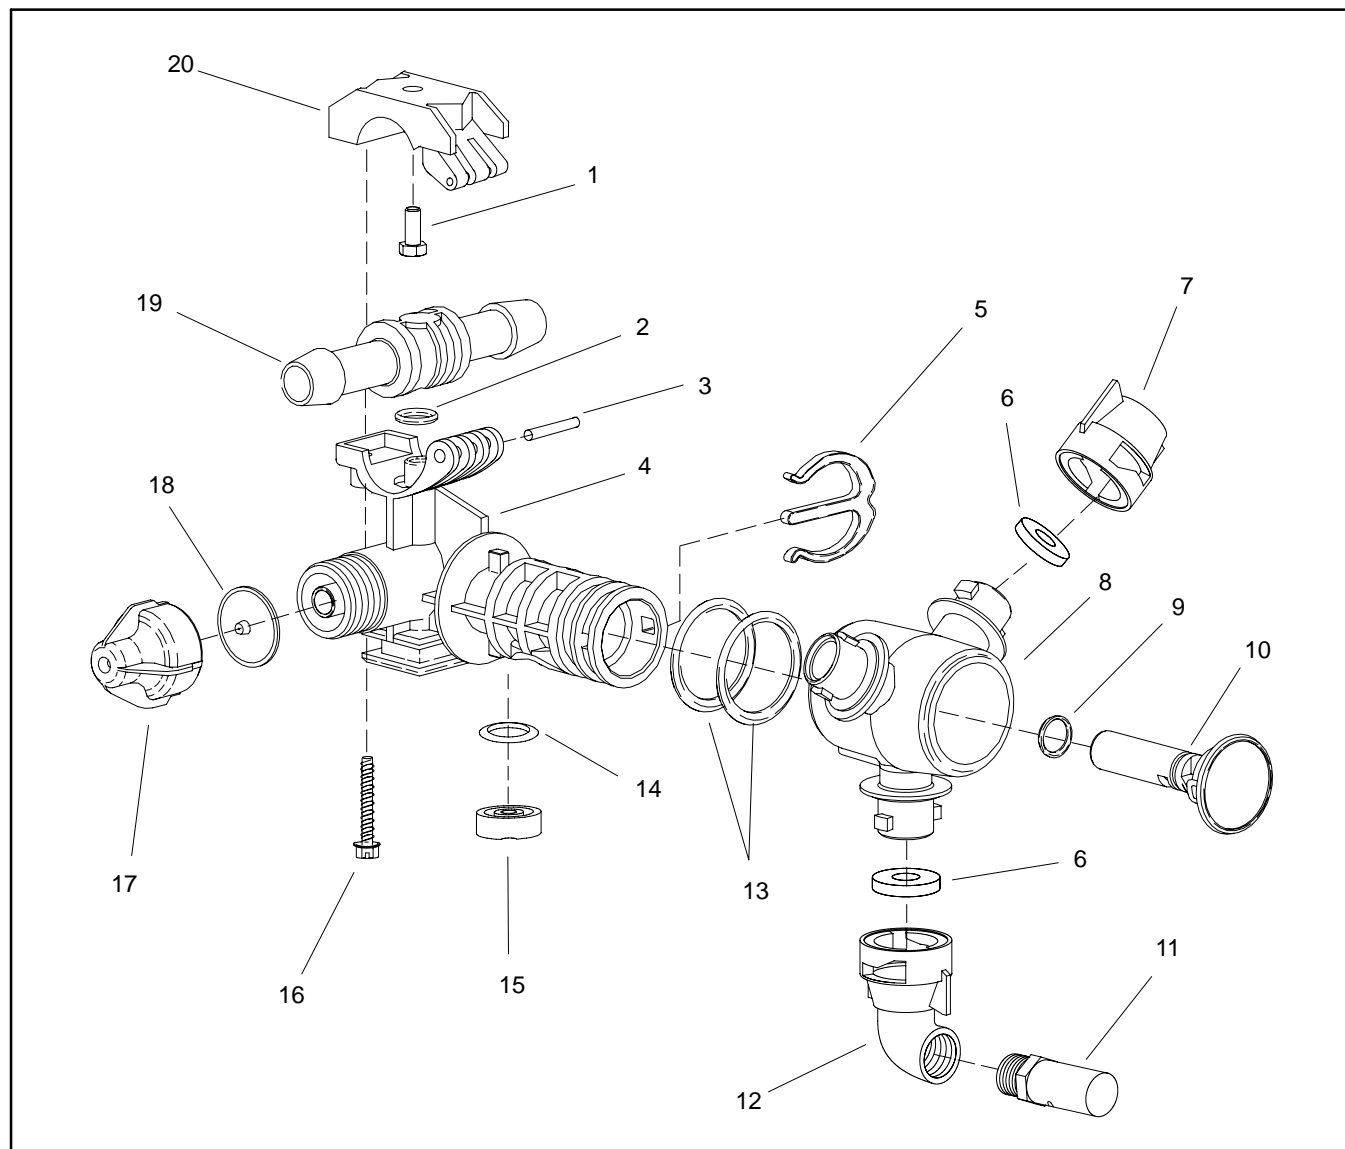

Figure 30
Disassembly (Fig. 30)
2. Disassemble turret body using Figure 30 as a guide.
Assembly (Fig. 30)
2. Assemble turret body using Figure 30 as a guide.